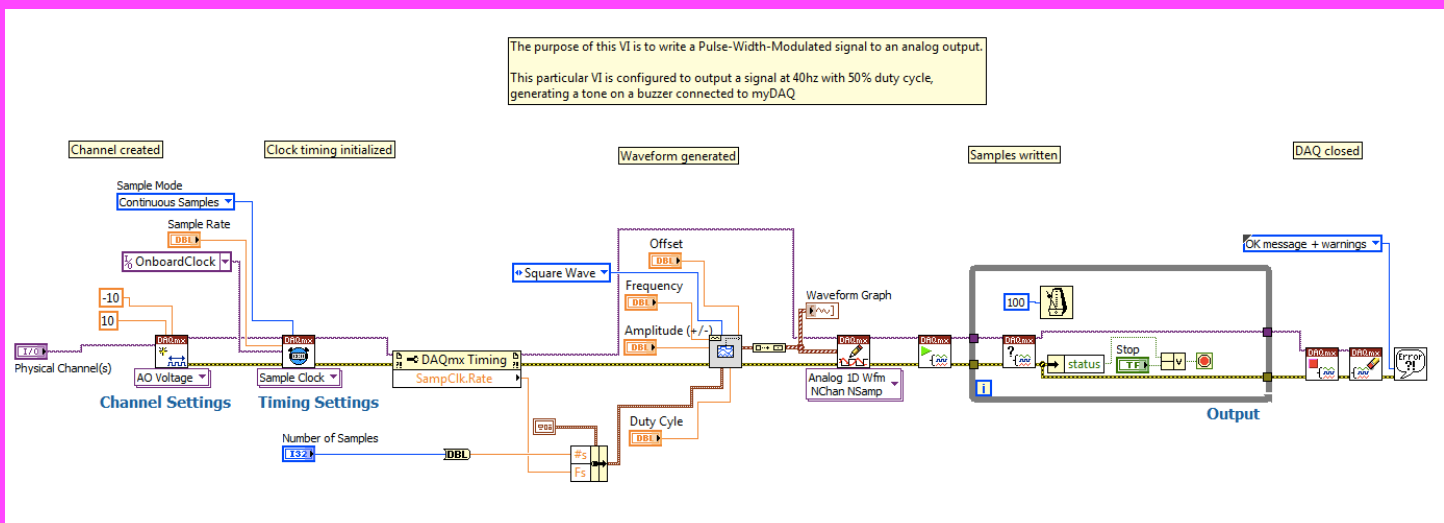

Figure 2: Writing the Buzzer's PWM signal
Step 4: Examine the Block Diagram of the Main VI (Figure 2).